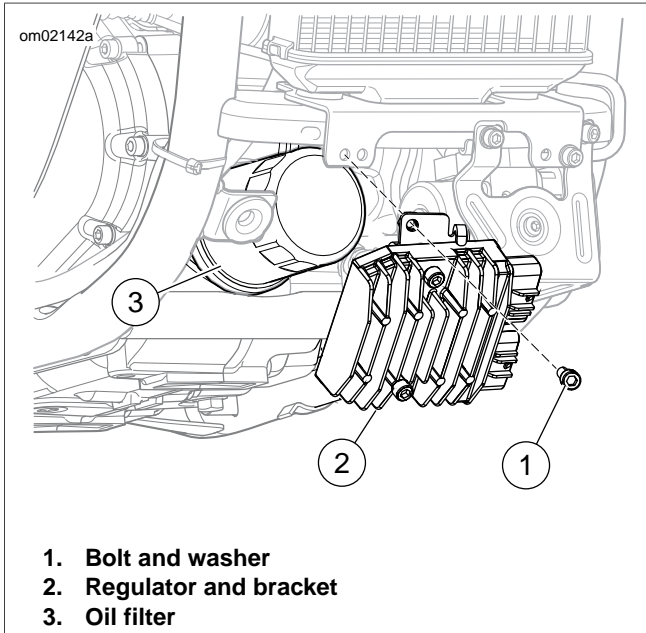

Figure 26. Engine Oil Filter and Regulator
6. See Figure 26. Remove the regulator bolt and washer (1). Support the regulator as necessary.
7. Remove the oil filter (3) with OIL FILTER WRENCH (Part No. HD-51453).